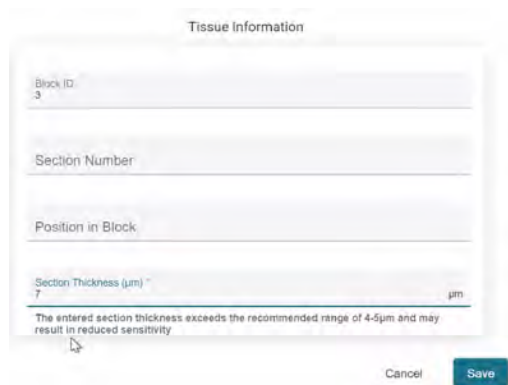

Figure 19: Tissue Information
6. Finally, fill in the **Tissue Information** . Fields marked with an asterisk (*) are required (see Figure 19).